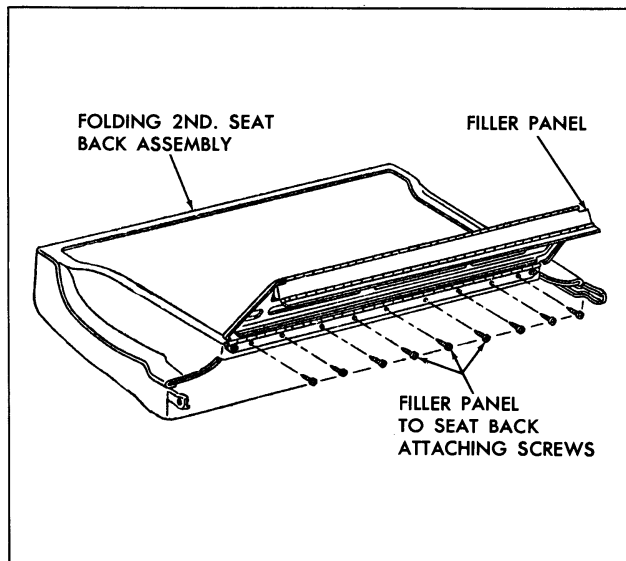

Fig. 8-5 Second Seat Floor Panel
*NOTE: When necessary to remove filler panel from seat back, as a bench operation, fold filler panel as shown in Figure 8-5 and remove screws which secure filler panel to seat back panel.*
3. Fold panel forward sufficiently to remove screws which secure panel to folding 2nd seat back and remove panel from body (Fig. 8-5).